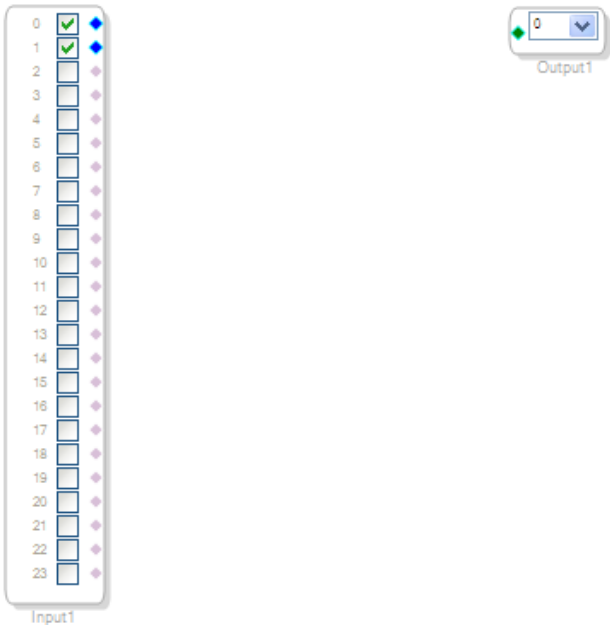

Figure 22. Input Cell and Output Cell
5. Click and drag the **Output** cell into the project space, as shown in Figure 22.